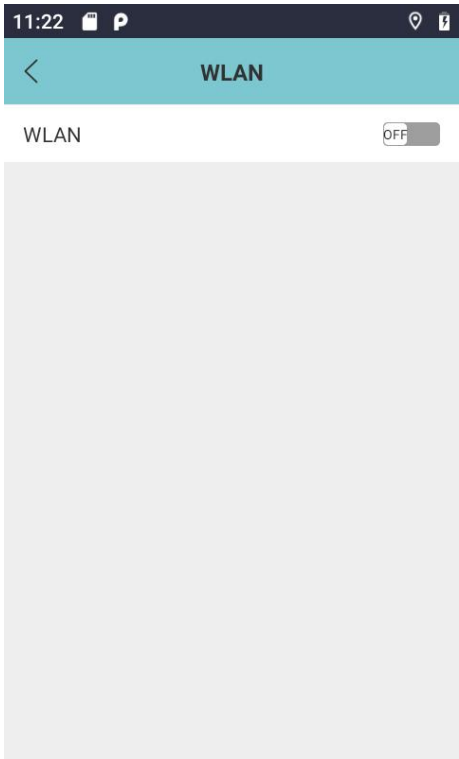
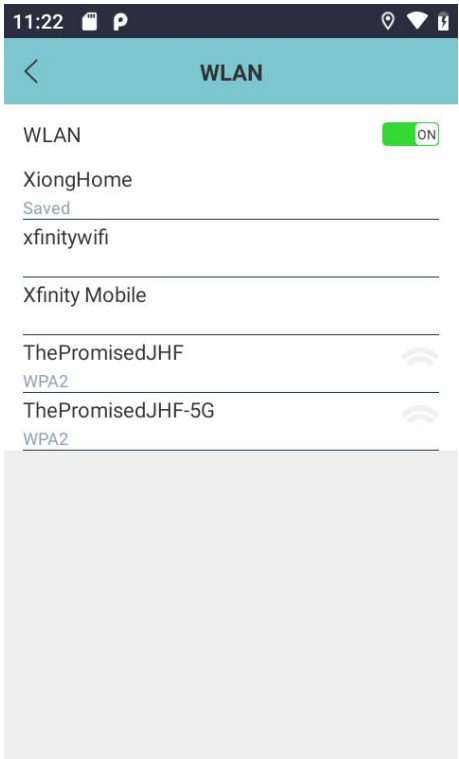

Figure 6.99
Figure 6.100
- 2) WLAN (Wi-Fi): Tap “WLAN” to access the Wi-Fi settings interface, as shown in Figure 6.99. Enable or disable the Wi-Fi connection using the toggle switch. Scan and connect to available Wi-Fi networks. Wi-Fi connectivity works similarly to Android-based systems. Connection example shown in Figure 6.100.